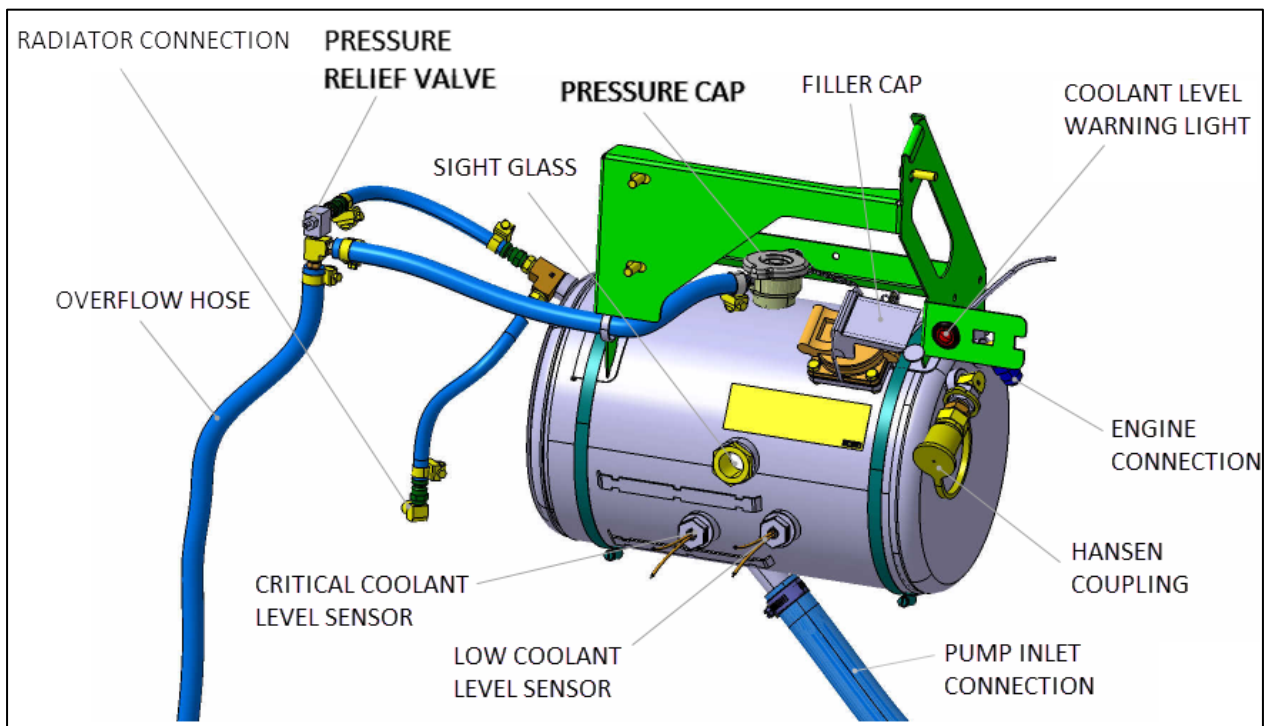

Figure 1
1. Relieve cooling system pressure by depressing the pressure relief valve button, left of the surge tank.(Fig. 1)
8. Re-pressurize the system by the “Hansen” coupling. (Fig. 1) Do not exceed **15 psi**.